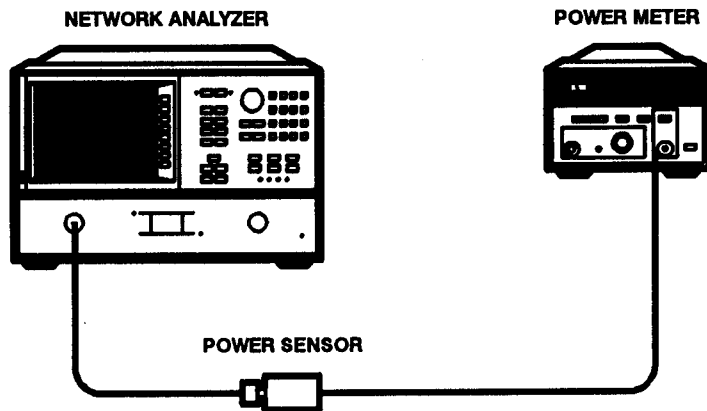

Figure 4-5. Power Level Test Setup
2. Connect the power sensor to port 1 of the analyzer as shown in Figure 4-5.